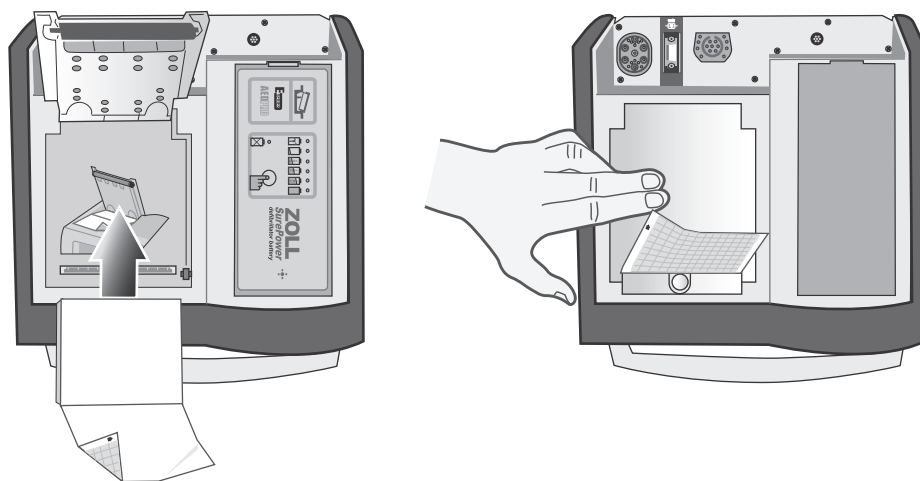

Figure 12-6. Inserting the Paper and Closing Printer Door
4. Place the paper back into the unit and close the cover (see Figure 12-6).